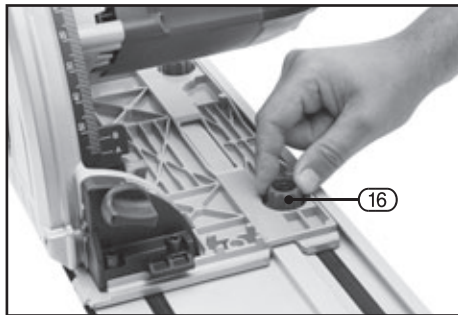

FIG.9
9.6 GUIDE RAIL ADJUSTMENT – FIG.9
- Tighten the adjusting knob (16) to minimize the clearance between the saw and the rail.